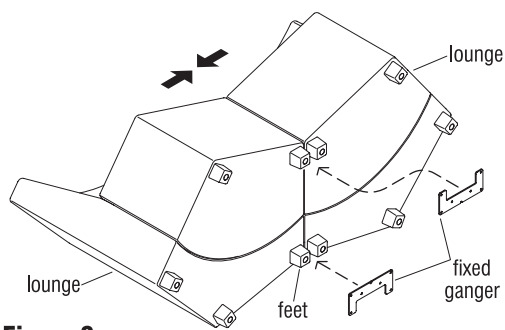

Figure 2
2. Turn two units carefully onto their backs or upside down, next to each other on a soft, protective surface to begin the fixed-ganging process. Carefully hold and align two units together, position a ganging bracket centered between the two units (Figure 2), as illustrated around the square feet (for the foot option – Detail A) or aligned and centered around glides (less precisely for glide option – Detail B). One bracket at a time, secure a bracket to the front and back, underside of the pair of lounge units using six #14 x 1” Phillips screws (Figure 3).